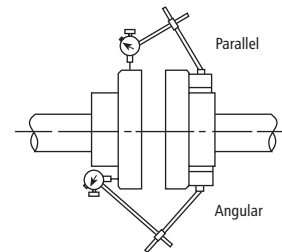

Figure 2
- Alignment **MUST** be checked prior to running. See Figure 2.